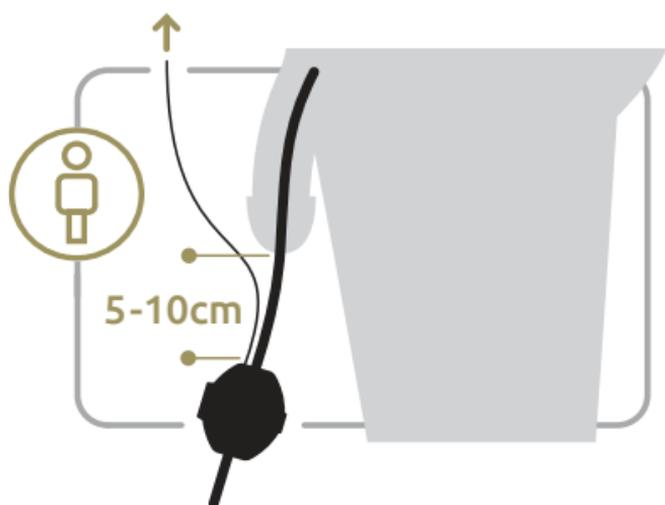

fig.2
- 3 Remove the two protective strips from the inside of the actuator. *(fig.2)*